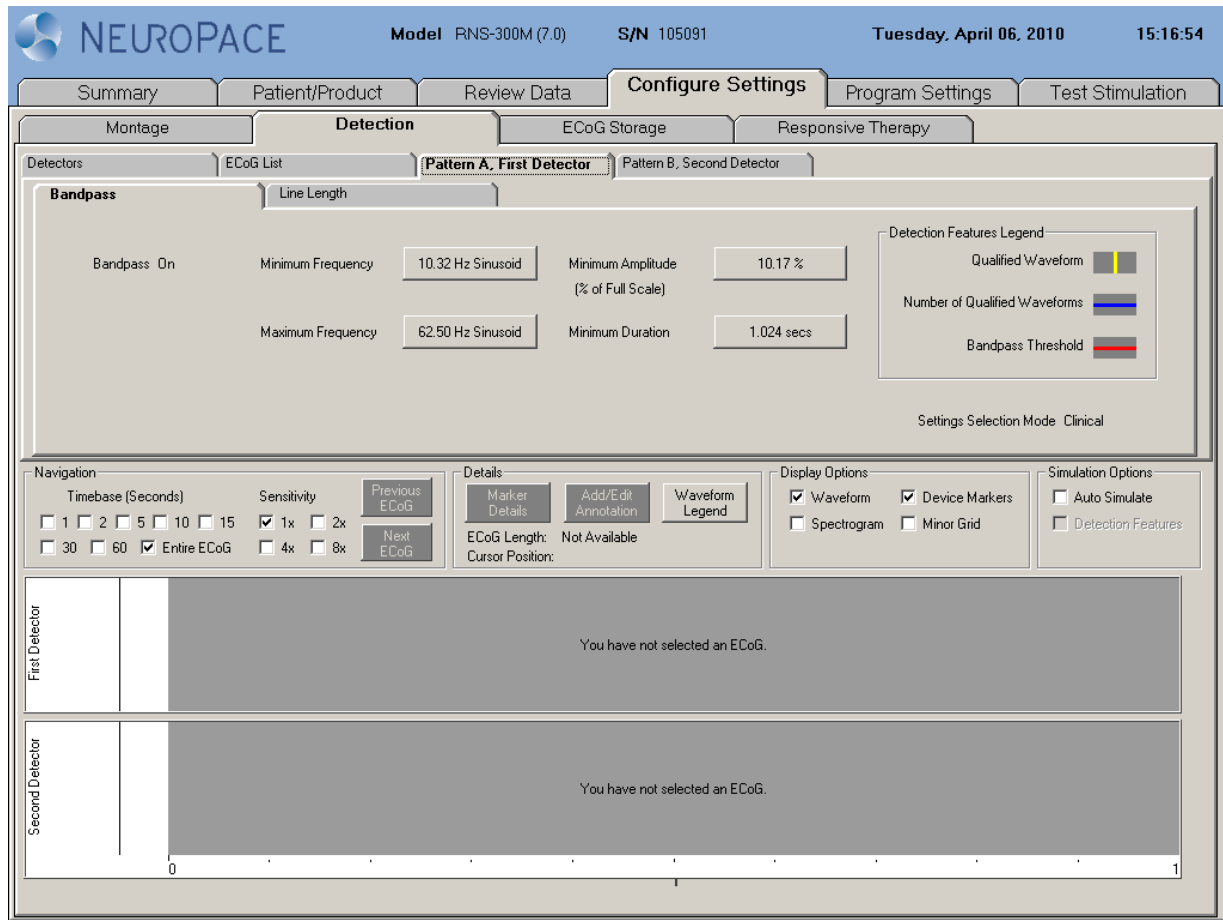

Figure 33: Bandpass tab.
- Configure **BANDPASS** detector(s) (Figure 33).